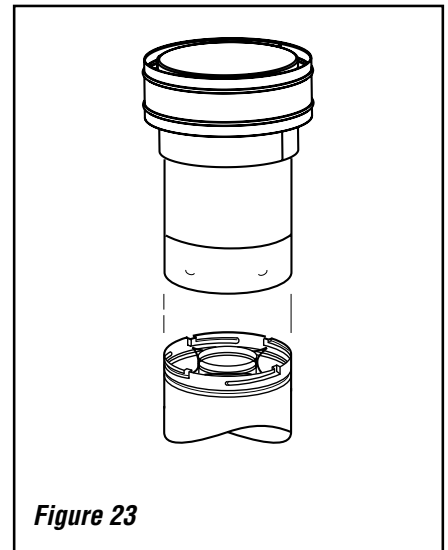

Figure 23
K. Install the vertical termination - The final step involves installation of the SV4.5CGV-1 Vertical Termination. Extend the vent sections to the height as shown in the "Vertical vent termination section" on **Page 6**. The SV4.5CGV-1 Vertical Termination (**Figure 23**) installs in the exact same fashion as any other **Secure Vent** section. Align the termination over the end of the previously installed section, adjusting the radial alignment until the four locking dimples of the termination are aligned with the inlets of the four incline channels of the last vent section. Push the termination down until it fully engages, then twist the termination clockwise running the dimples down and along the incline channels until they seat at the end of the channels.